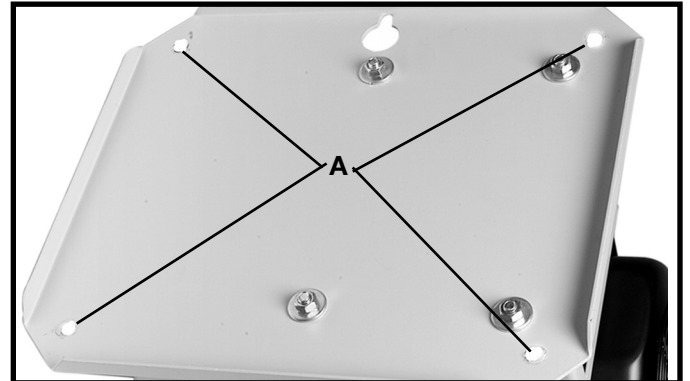

Fig. 3
2. Insert bolt on caster through the four holes (A) Fig. 3 in the base of the dust collector.